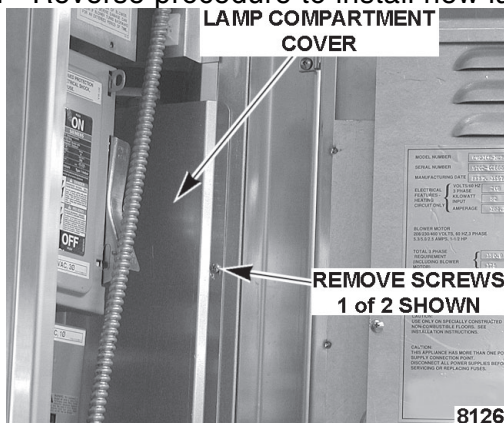

Fig. 1
- A. Remove screws securing lamp compartment cover (Fig. 1) and pull cover towards you to disengage cover from rear tabs.